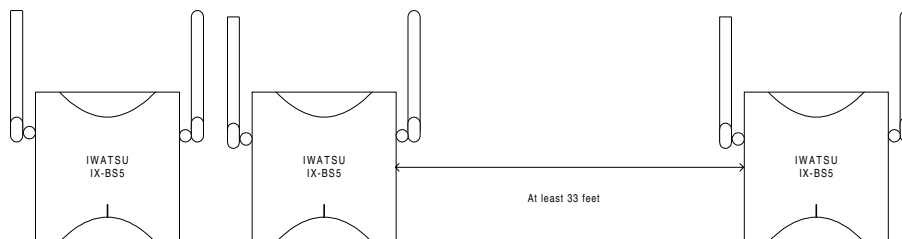

Figure 36. Base Station Placement in Relation to Cells
2. Remove the plastic tabbed plate from the bottom right of the IX-BS5. See Figure 36.